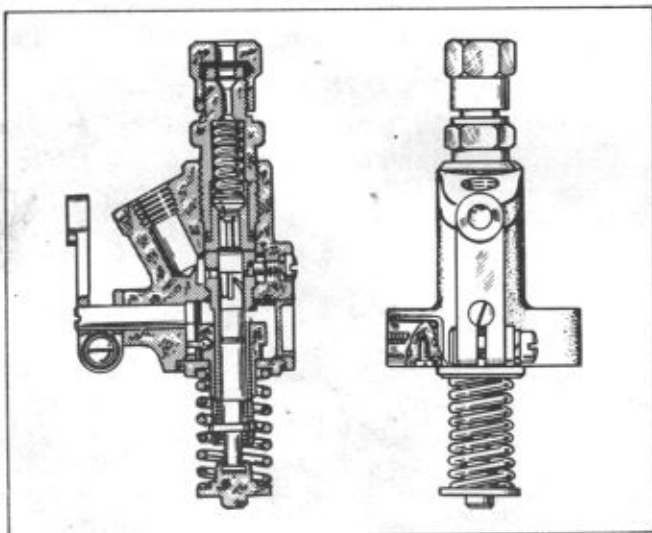

Figure 28. PLB. Injection Pump
1. Model PLB-Figure 28 illustrates the injection pump cross section. When the piston is nearing the end of the compression stroke, the plunger has moved upward (lower line, Figure 28) closing the ports trapping fuel and forcing the delivery valve off its seat. The fuel flow is up past the delivery valve and delivery valve spring to the high pressure line leading to the injection nozzle. Injection continues until the helix passes and spills, which drops the pressure rapidly. Delivery valve action is to aid in dropping line pressure and keep fuel from draining out of the line, allowing a void between the injection pump and nozzle which would cause the nozzle not to open on the next firing cycle.